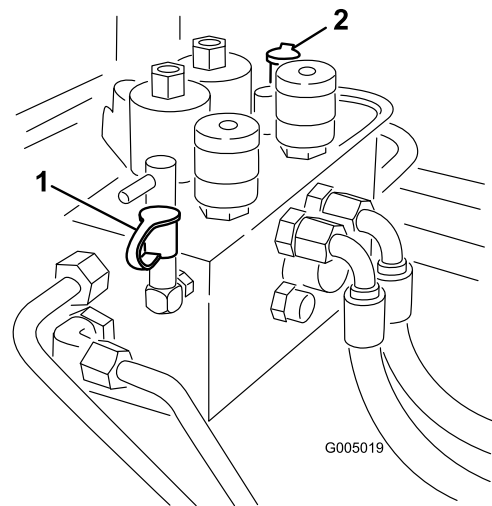

Figure 82
2. Test Port B (Figure 82) is used to assist in trouble shooting the hydraulic circuit for the front cutting units.
3. Test Port C (Figure 82) is used to assist in trouble shooting the hydraulic circuit for the rear cutting units.